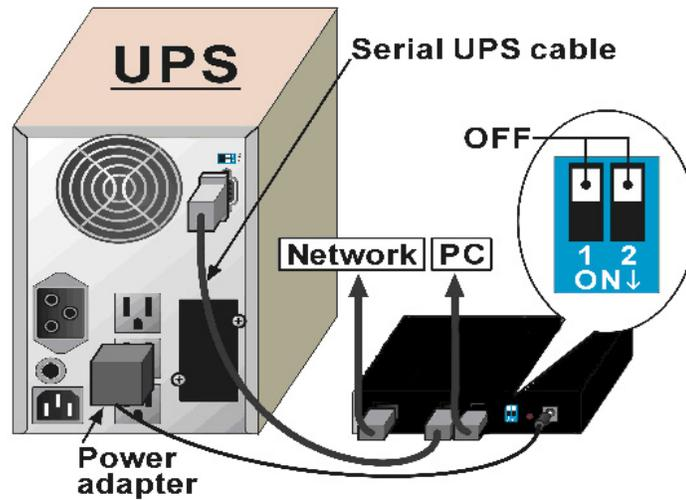

Figure 2: RemotEye II/External
3. Connect the UPS cable from the RS232 serial port of the Toshiba UPS to the RemotEye II/External UPS port. (See Figure 2: RemotEye II/External)